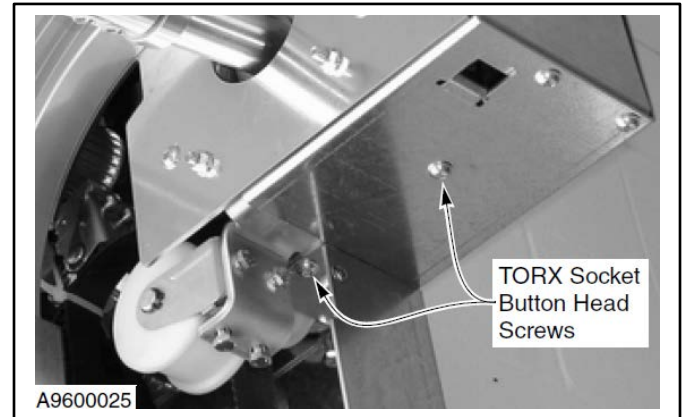

Figure 43
3. Loosen the two TORX® socket button head screws on the bottom of the console. (See Figure 43.)